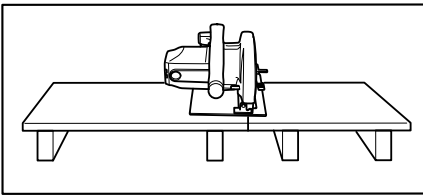

Fig. 1
9. Support Large Panels (Fig. 1 & 2). Large panels must be supported as shown in Fig. 1 to minimize the risk of blade pinching and kickback.
11. Guard Against Kickback. (Fig. 1 & 3) Kickback occurs when the saw stalls rapidly and is driven back towards the operator. Release switch immediately if blade binds or saw stalls. Keep blades sharp. Support large panels as shown in Fig. 1. Use fence or straight edge guide when ripping. Don't force tool. Stay alert-exercise control. Don't remove saw from work during a cut while the blade is moving.